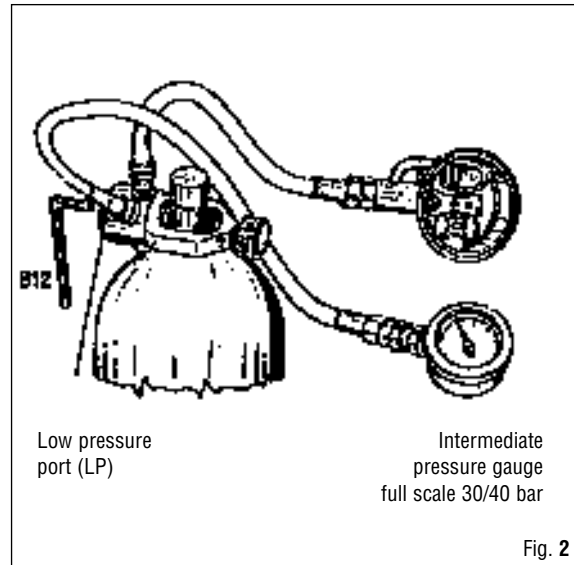

Fig. 2
13. Connect the first stage to a full tank (2600 - 3000 psi / 185 - 210 bar) (Fig. 2).
24. Connect the first stage to a full tank (2600 - 3000 psi / 185 - 210 bar) (Fig. 2).